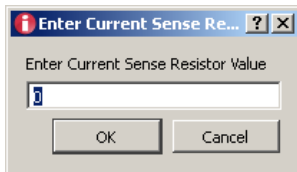

FIGURE 7. CURRENT SENSE DIALOG BOX
- Enabling the current functional block on the DPM interface requires the user to enter a shunt resistor value. The entered value is stored in the DPM calibration register and is used to calculate the current or power depending on the enabled check box. Figure 7 illustrates the dialog box that request the shunt resistor value when current functionality is enabled.